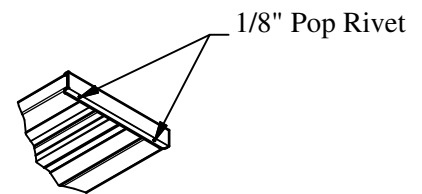

Figure 5
4. Install the end caps on each end of the seat planks, foot planks, and riser planks. Slide the end cap onto the plank with the holes on the underside of the plank. Using the holes in the end cap for a guide, drill a 1/8" hole and install the pop rivets to retain the end caps. See Figure 5.
8. Before tightening the seat plank bolts, align all the planks and make sure the planks are centered on the assembled frame. See Figure 5 for reference dimensions.